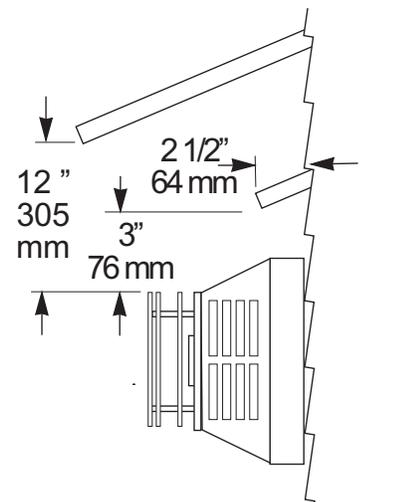

Figure 21. Termination Clearance to overhangs.
- The horizontal termination cap must maintain a 3" clearance to any overhead combustible projections 2 1/2" or less. It must also maintain 12" clearance from projections exceeding 2 1/2". See fig. 21.